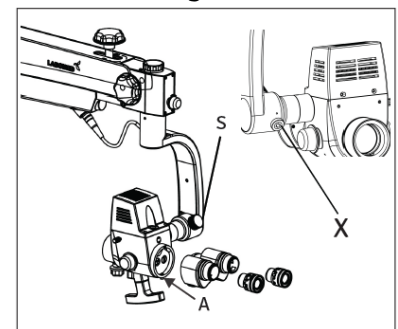

Fig. 40
- Take out the observation head (as ordered) and eye pieces from the box Referring fig. 40, loosen the tightening screw 'A' using 2mm Allen wrench (provided) and tight the observation Head in position carefully. Insert the eye pieces in both eye tubes and set both dioptrre to zero.
- Counter Balancing mechanism is provided with Hex Screws X to adjust force with clockwise/anticlockwise rotation on carrier Arm to take care of extra loads of accessories. (if Provided) at the time of installation Refer Fig.40.